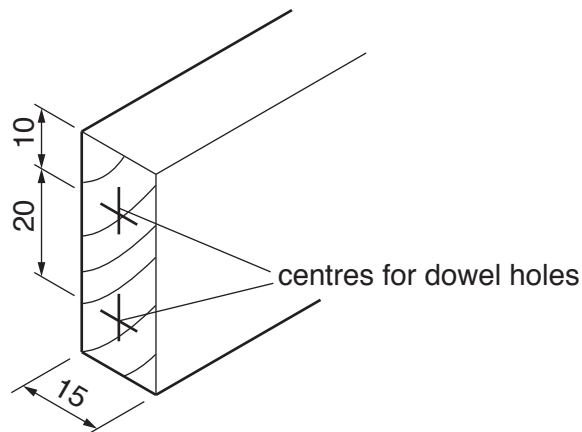

Fig. 15
- (f) Fig. 15 shows one end of the top rail. The top rail is joined to the upright by means of dowels.